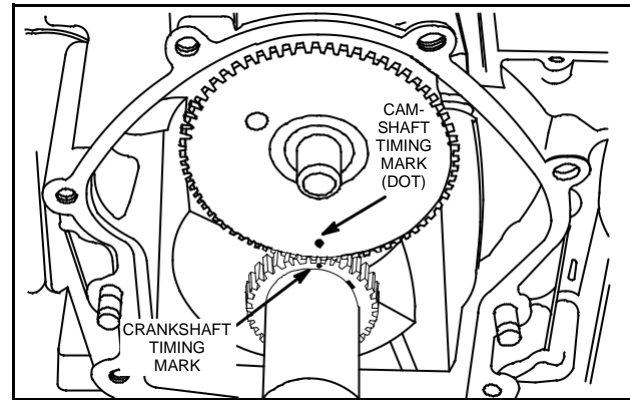

Fig. 1 – Install Crankshaft – Plain Bearing Models
3. Align timing marks and install camshaft, Fig. 1.